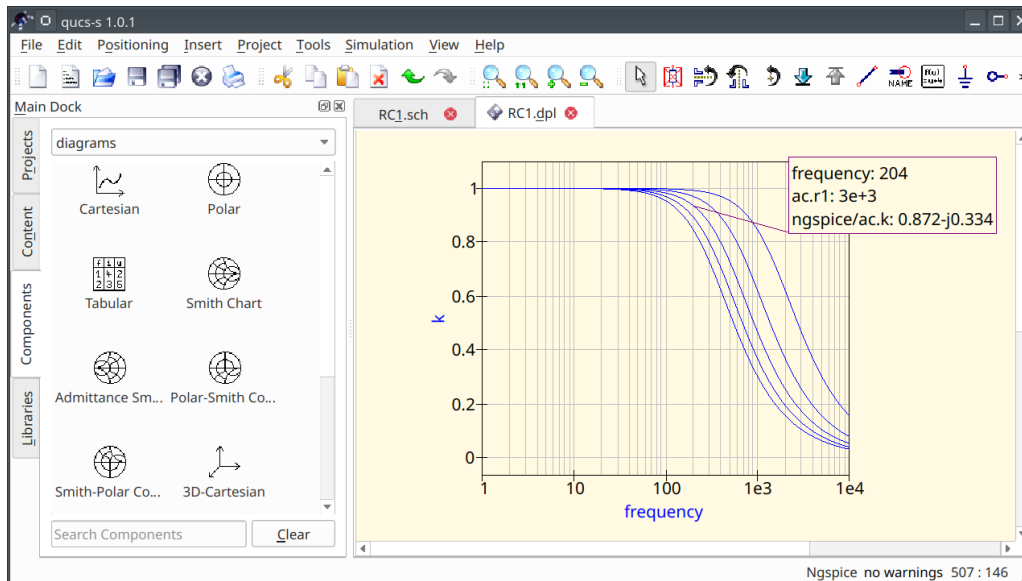

Figure 15: Magnitude response of the RC-circuit with the parameter sweep
- **Step 3:** Run the simulation and place the diagrams as for usual simulation (Figure 15). You should see the family of the curves. You may place a marker on the diagram and